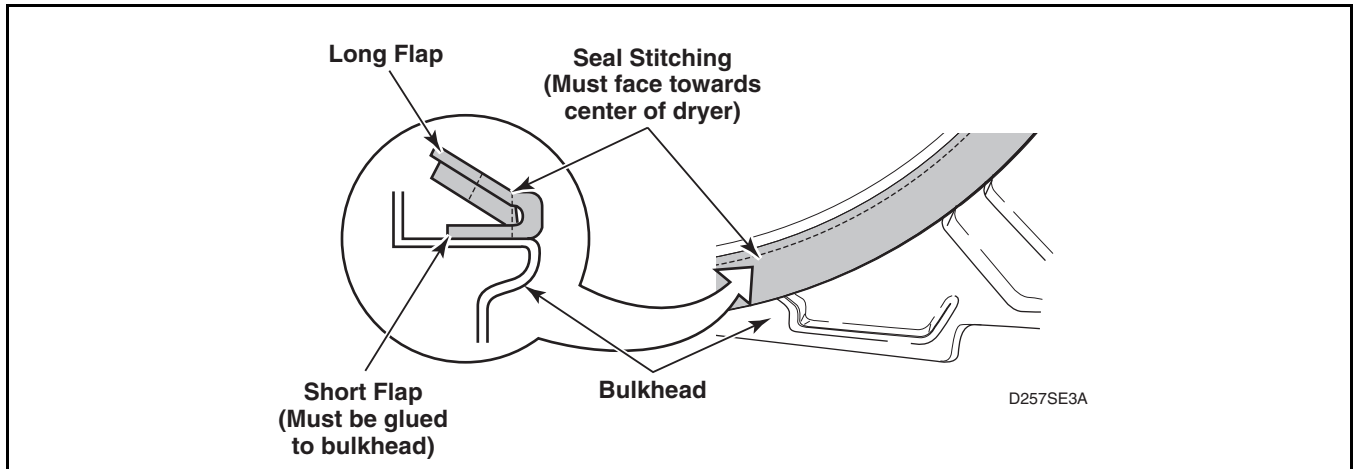

Figure 32
k. **Front Cylinder Seal.** Refer to *Figure 32*.
- (1) The stitching on the seal must face towards the dryer center. Refer to *Figure 32*.
- (2) The short flap, shown in *Figure 32*, must be glued to the bulkhead and the long flap left loose.